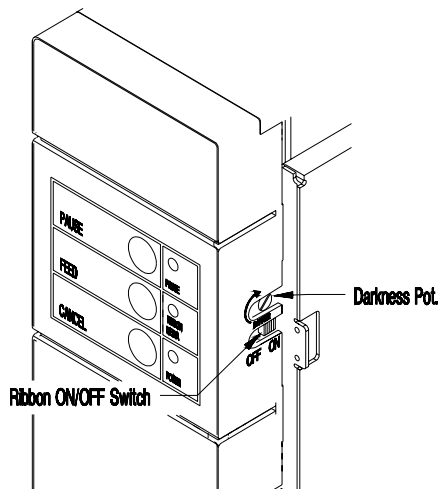

Figure 3-1 Front Panel
The Printer has five (5) operator accessible switches and three (3) LED indicators, (see Figure 3-1). A brief description of the switches and LED indicators is listed in this section.